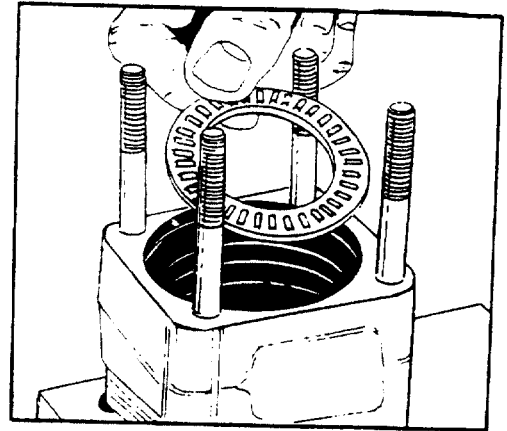

FIGURE 71.
- 24. Lightly grease roller thrust bearing (28), and place it on the upper cover plate (32), inside the bearing spacer (27). See figure 71.